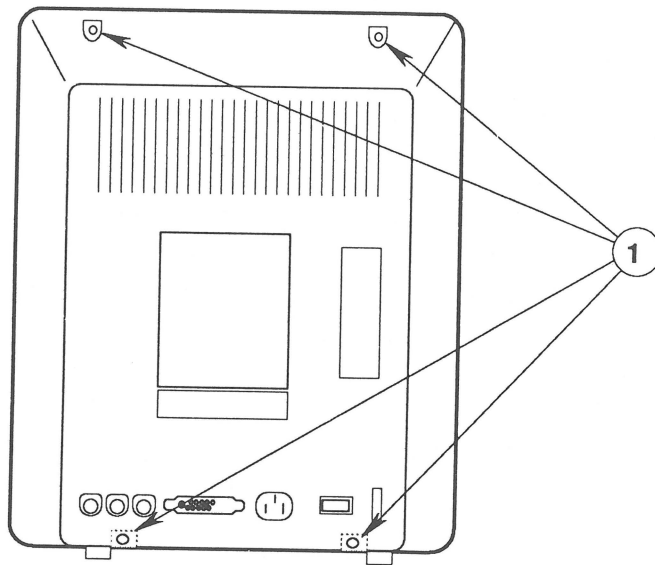

FIGURE 1
2. Remove the four case screws (Figure 1, #1) and lift the rear cover off the bezel.
2. Slide the rear cover onto the bezel, and replace the four case screws (Figure 1, #1).